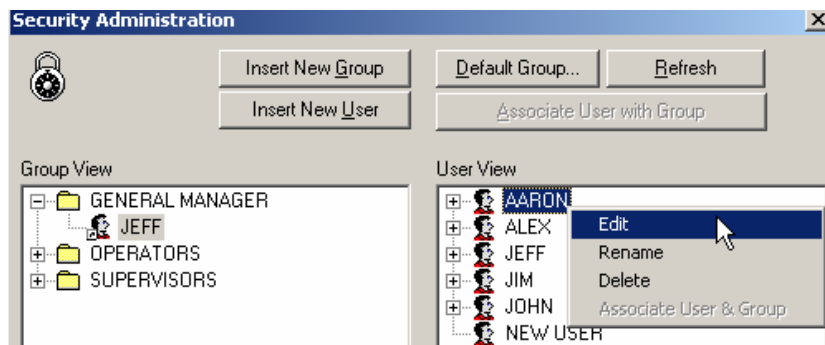

Figure 9.59. Editing User and Group Properties
2. Right-click on the group or user and select **Edit** from the pop-up menu, as shown in **Figure 9.59**.